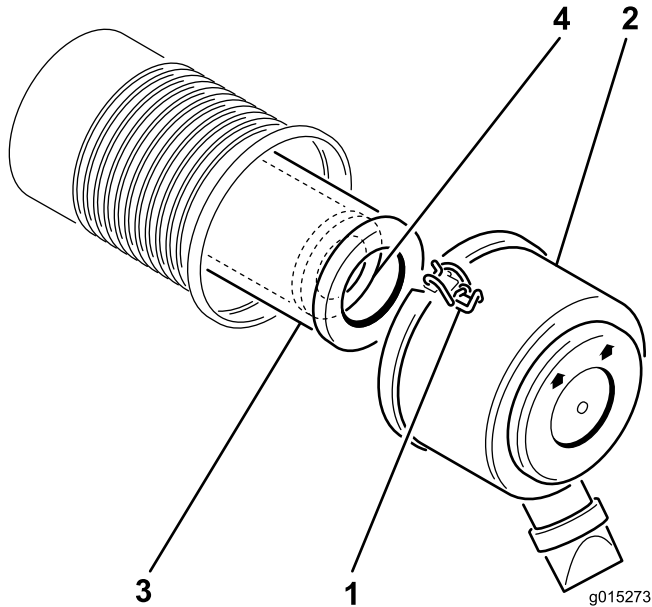

Figure 18
1. Release the latches securing the air cleaner cover to the air cleaner body. Separate the cover of the air cleaner from the body of the unit. Clean the inside of the air cleaner cover (Figure 18).